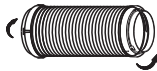

Fig.16
1. Install the window exhaust adaptor B onto the exhaust hose as shown in Fig.16. Refer to the previous pages for window kit installation.